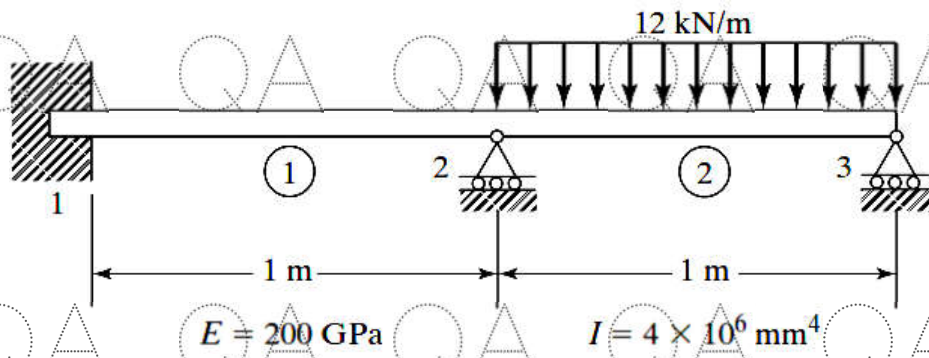

Figure 4
5. The beam shown in figure 4. Determine a) slopes at 2 and 3 b) the vertical deflection at the midpoint of the distributed load. [10]